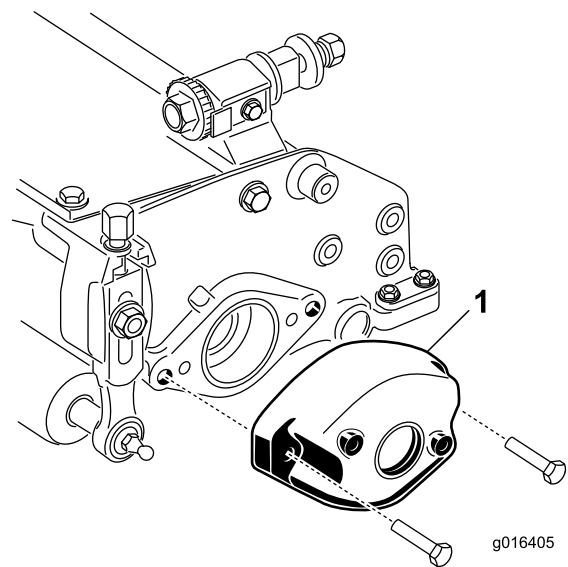

Figure 3
2. Remove the counter weight (Figure 3).